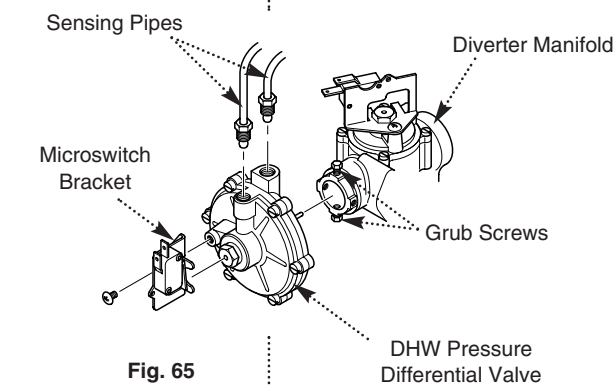

Fig. 65
12.22 Diverter Valve Assembly (Figs. 65 & 66)
2. Undo the screw securing the microswitch bracket to the valve (Fig. 65).